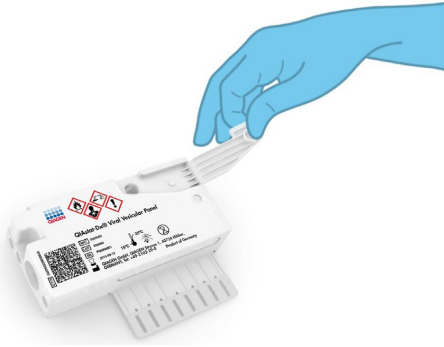

Figure 6. Opening the sample lid of main port.
4. Open the sample lid of the main port on the front of the QIAstat-Dx Viral Vesicular Panel Cartridge (Figure 6).